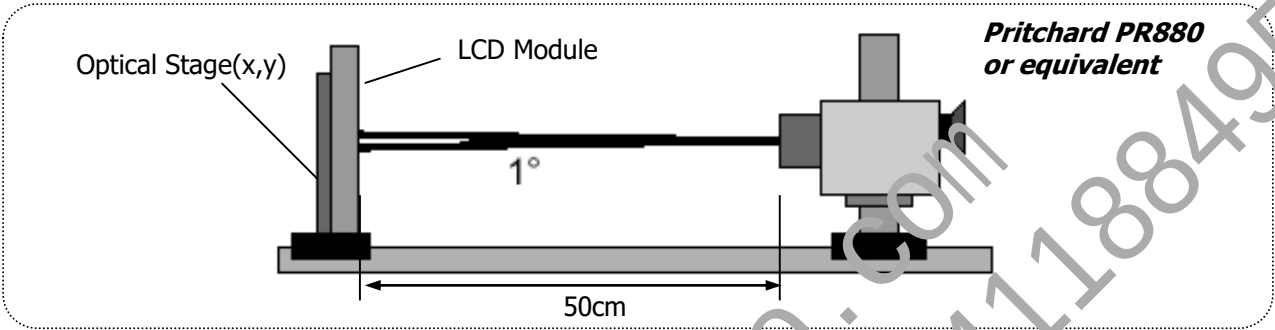

FIG.4-1 Optical Characteristic Measurement Equipment And Method
Optical characteristics are determined after the unit has been 'ON' for approximately 30 minutes in a dark environment at 25±2°C. The values specified are at an approximate distance 50cm from the LCD surface at a viewing angle of Φ and θ equal to 0° and aperture 1 degree. FIG.4-1 presents additional information concerning the measurement equipment and method.
- 2) **Surface Luminance(L_{WH})** is the luminance value at center 1 point(1) across the LCD surface 50cm from the surface with all pixels displaying white. For more information see FIG.4-1. **(By PR880)**